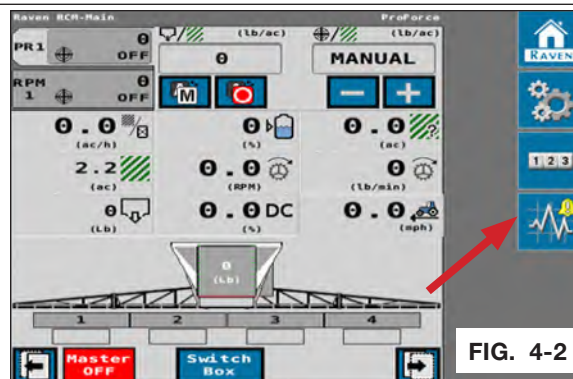

FIG. 4-2
2. Go to Main Home Screen and click "Diagnostic" button. (FIG. 4-2)